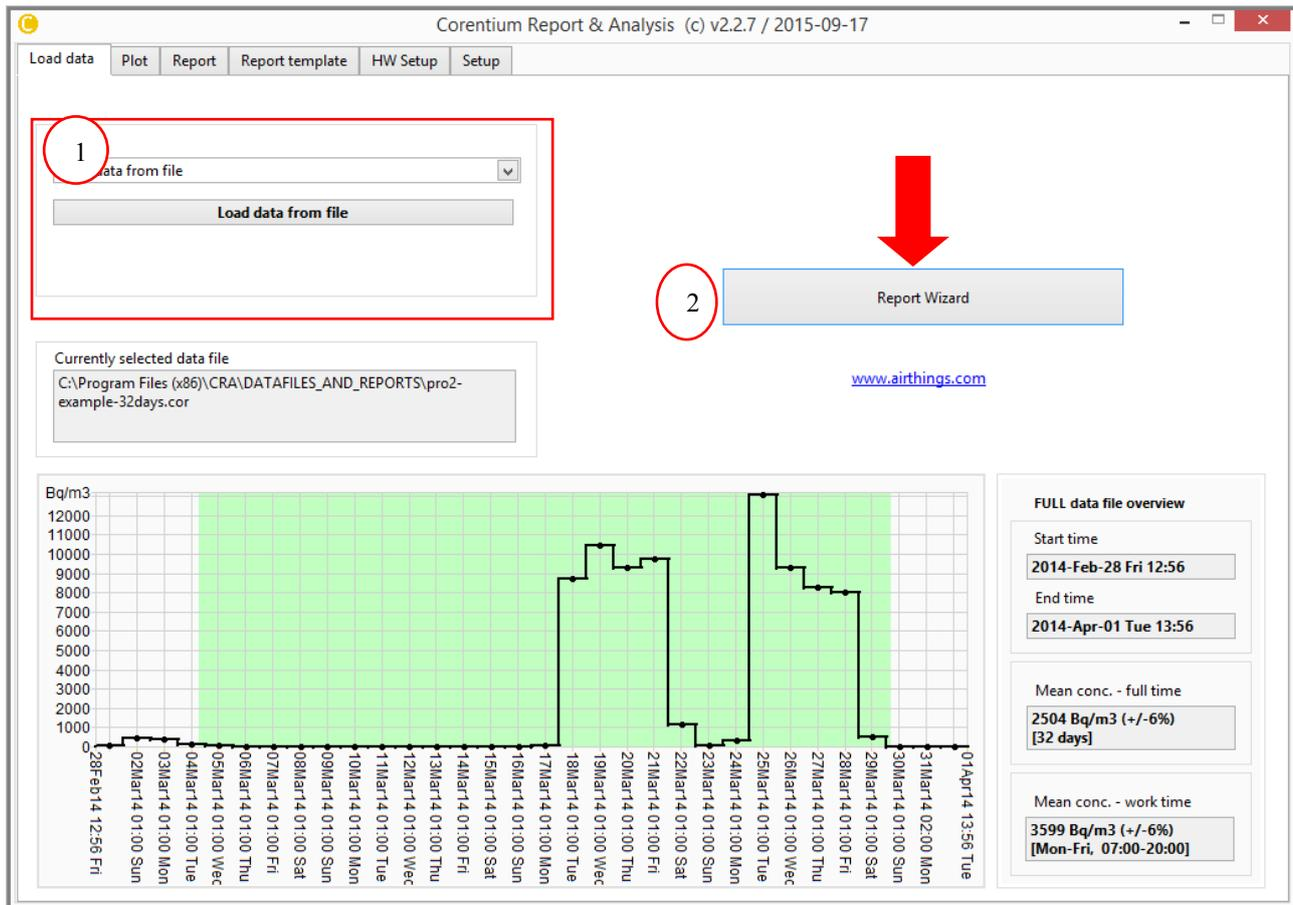

Figure 4-45: Report Wizard
2. Push Report Wizard as indicated by red arrow in Figure 4-45. You would be navigated automatically to Report duration window